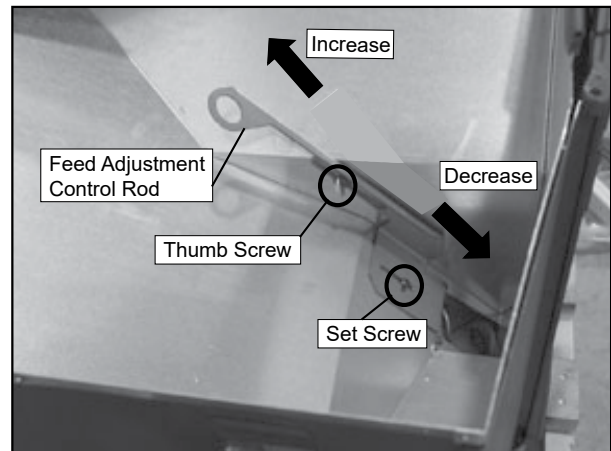

Figure 11.3
1. Loosen the set screw 1/4 to 1/2 turn during set-up of appliance. This will allow movement of the feed adjustment control rod. Do not re-tighten set screw (**Figure 11.3**). Loosen the wing nut.